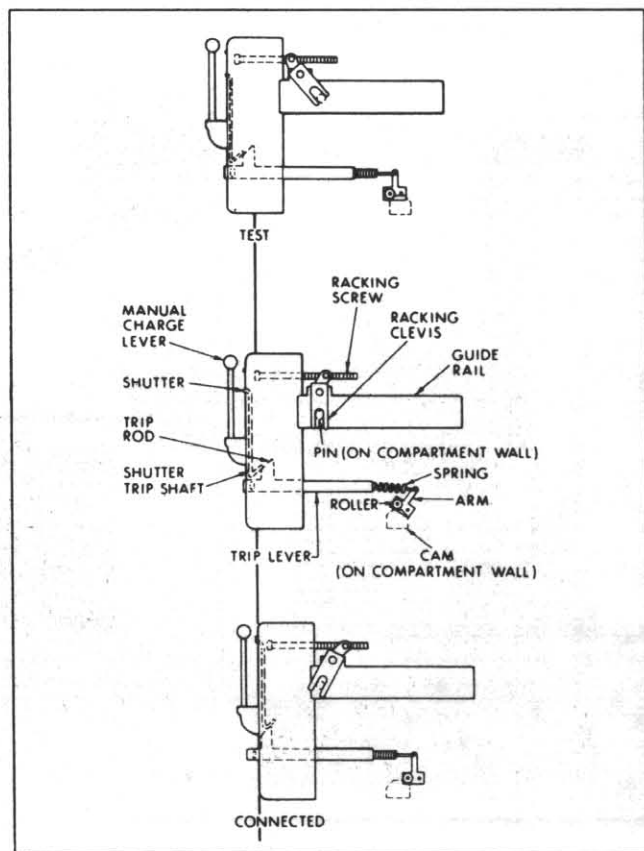

Figure 32. — Circuit Breaker Positioning Diagram
2. With racking crank (furnished with accessories), rotate racking screw to move racking clevises to the position shown in figure 32 where they will engage with pins (10, figure 30) on the compartment rails.
partment floor, raises the interlock in the breaker. The trip rod and trip shaft are held in the TRIP FREE position so the breaker cannot be closed, even if the interlock slide is raised (see figure 32). This prevents movement of a closed breaker into or out of the CONNECTED position.